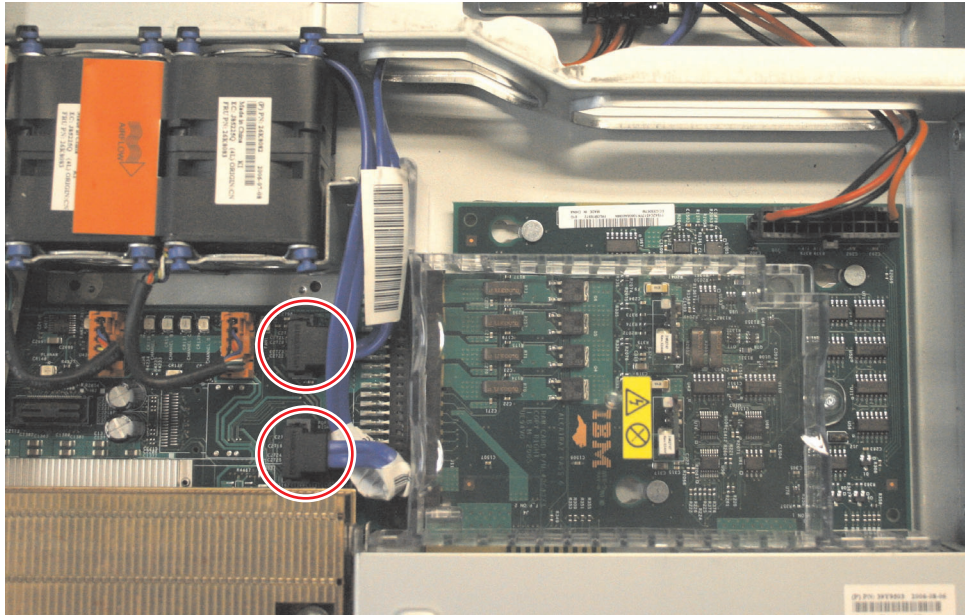

Figure 122. The SAN Volume Controller 2145-8G4 disk-drive backplane connectors
8. Disconnect the two blue signal cables from the system board, shown in Figure 122 on page 142, and disconnect the power cable from the power supply backplane card.